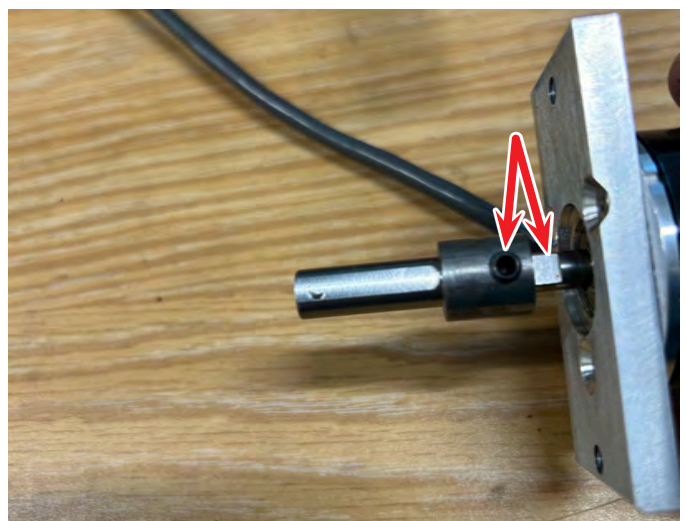

FIGURE 20
4. Insert the encoder shaft into the encoder to cog pulley shaft adapter (P/N 67113). Be sure to align the set screw with the flat on the encoder shaft (see Figure 20).